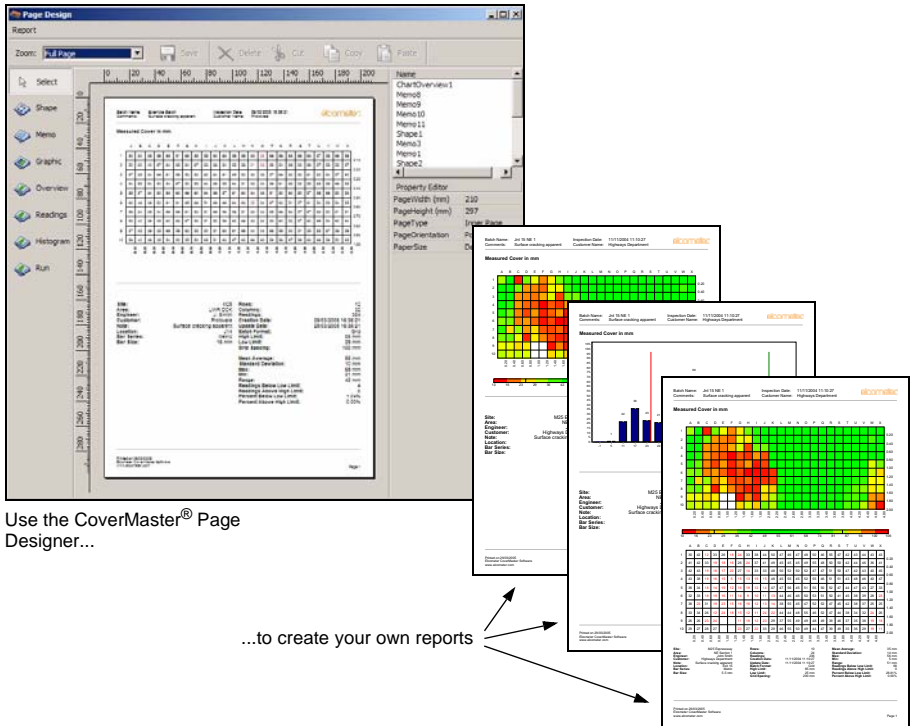

Figure 31. Produce professional reports^x direct from CoverMaster®
x. The illustrations in Figure 30 and Figure 31 show a grid batch. Grid batches are only available on Model 'T' Covermeters. Model 'SH' Covermeters can save up to 10 linear batches.